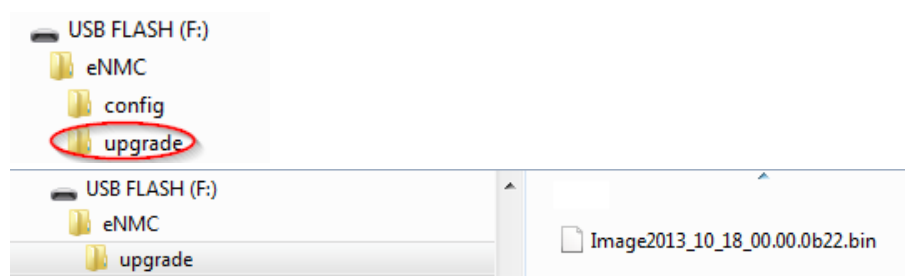

Figure 71. Root Directory of Flash Disk
3. Connect a USB drive to your computer and put the Image*.bin file in the eNMC/upgrade/ location on the USB drive root directory (see Figure 71).